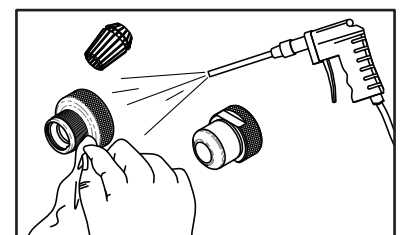
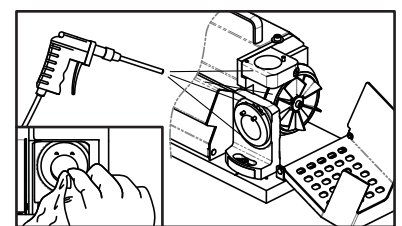

Fig. 13-4
Fig. 13-5
- ① Unplug the power cord and make sure the power is off.
- ② Disassemble the chuck set after use.
- ③ Use the air press gun to clean the scraps and dust out of all grinding shelves and all the accessories. (Fig. 13-4, Fig. 13-5)
- ④ Use clean cloth to clean each contact port and all the accessories, then put them back in order. (Fig. 13-4, Fig. 13-5)